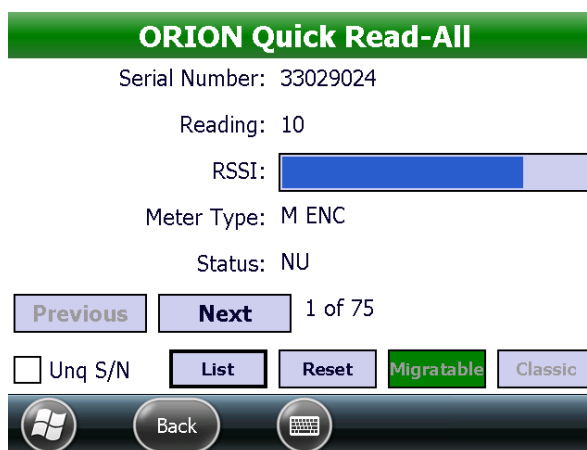

Figure 85: Paged view Quick Read
*Result: In Paged view (Figure 85), each endpoint displays on a separate "page". RSSI—a visual indicator of received signal strength between the endpoint and the handheld—also displays.*